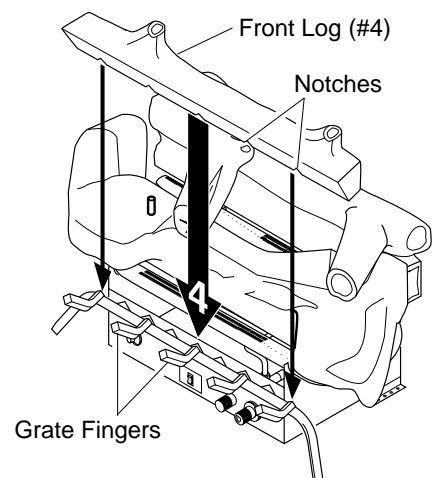

Figure 28 - Installing Front Log (#4)
4. Locate the notches in the bottom of the front log (#4). Place the front log on the grate fingers. Make sure the notches of the front log line up with the grate fingers (see Figure 28).